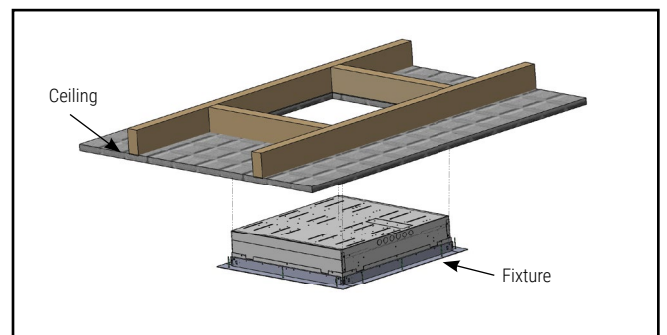

Figure 8
3. Install frame with fixture in ceiling cutouts and attach to ceiling frame with tamper proof screws provided (Figure 8)